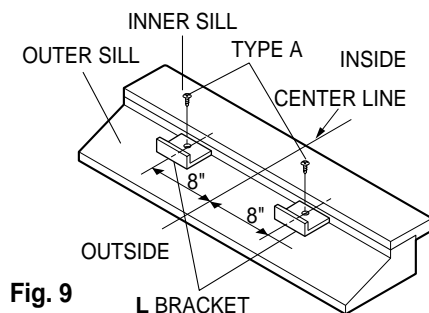

Fig. 9
Be sure to place bracket edge flush against back of inner sill. See Fig. 9.
- a. Carefully lift the air conditioner and slide it into the open window. Make sure the bottom guide of the air conditioner drops into the notches of the L bracket. See Fig. 9.